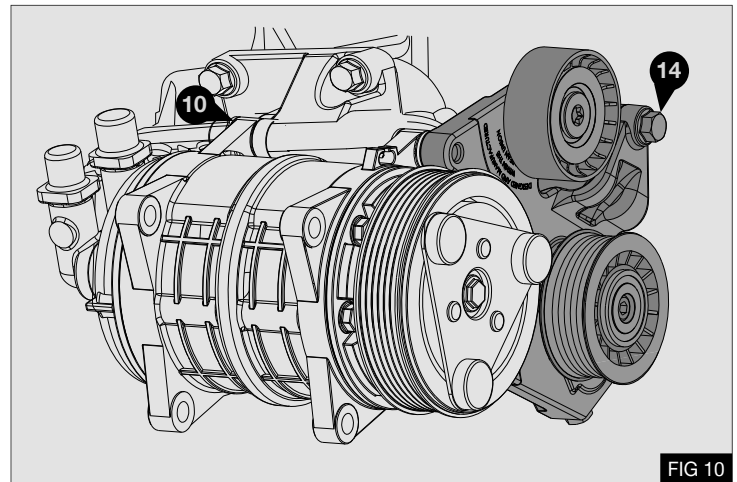

FIG 10
4. Mount the tensioner bracket assembly to the front compressor ears, using the 2 x M10 x 130 bolts (10) previously fitted - Fig 10
5. Secure the tensioner bracket assembly to the mounting point for the original idle pulley, using bolt (14) M8 x 35 - Fig 10
6. Torque bolts 2x (10) to 50Nm / 37lbf using a calibrated torque wrench.
7. Torque bolt (14) to 25Nm / 18lbf using a calibrated torque wrench.